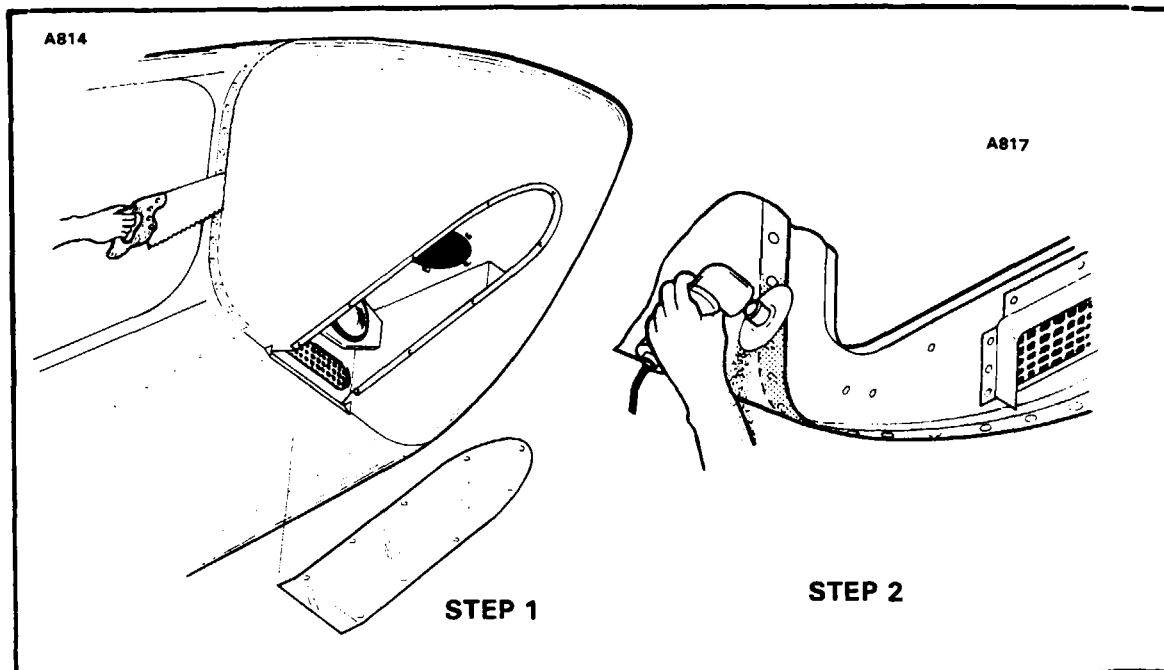

Figure 4-24. Removal of Nose Cone/Radome
4-73. REPLACEMENT/INSTALLATION OF NOSE CONE OR RADOME. PA-23-250 (six place), Serial Nos. 27-4426, 27-4574 and up. (Refer to Figures 4-24, 4-25 and 4-26.)
5. To remove the damaged nose cone/radome cut around the dome just forward of the mounting strip(s) (Figure 4-24, Step 1) attached to bulkhead, station -12.62, and remove cone.
c. If the bulkhead and mounting flange at station -12.62 are undamaged and not to be replaced, proceed to remove any old fiberglass and filler by grinding or sanding as shown in Step 2 of Figure 4-24. Make sure holes in mounting flange are clear, drill out if necessary.